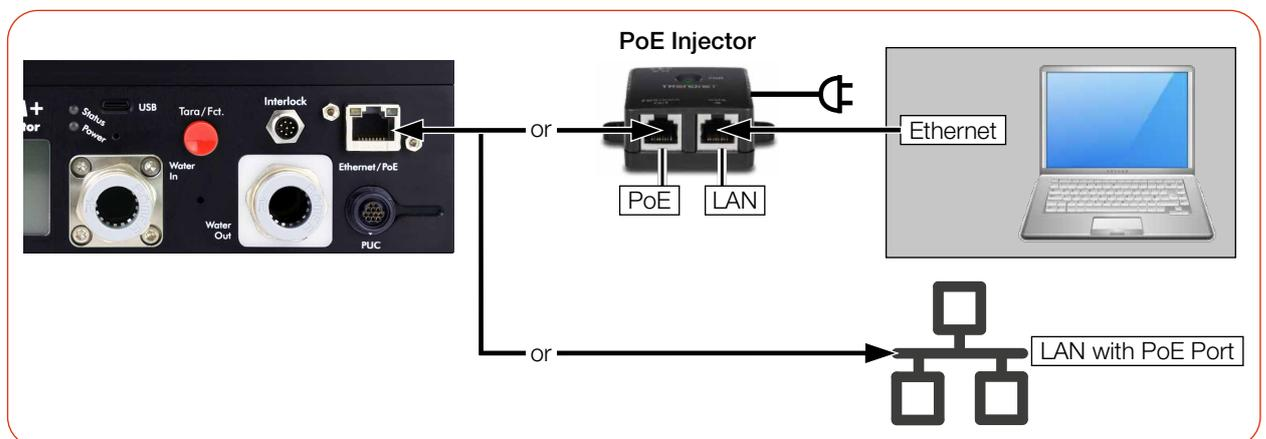

Fig. 7.5: Power supply and data transfer via Power over Ethernet (PoE)
- ▶ Connect the cables according to Fig. 7.5 on page 29.